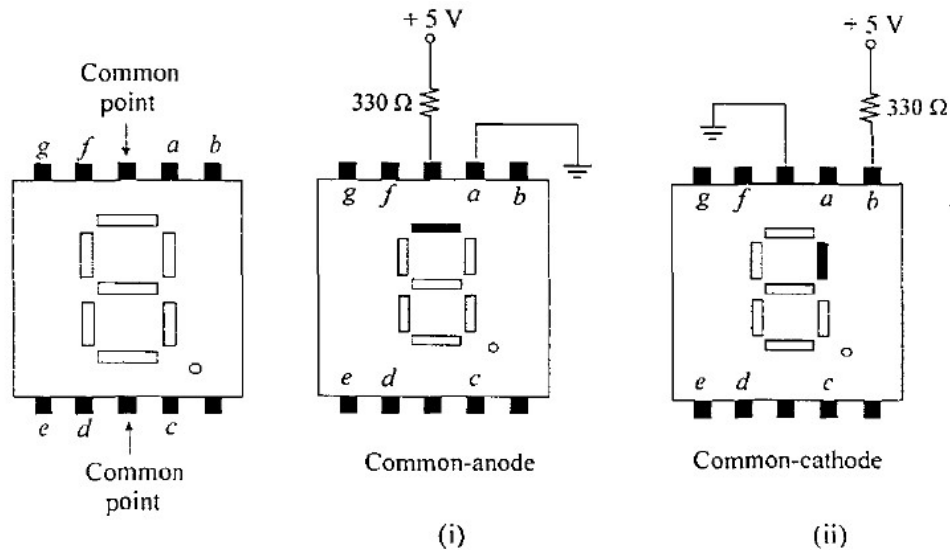

Figure 2.1 (a)
- Figure 2.1(a)-(i) shows the connection to determine the common anode configuration. Segment *a* will be light if it is common-anode and if there is no light, two possibilities, it may not function or it is common-cathode.
- Figure 2.1(a)-(ii) shows the connection to determine the common-cathode configuration. Segment *b* will be light if it is common-cathode and if there is no light, two possibilities, it may not function or it is common-anode.